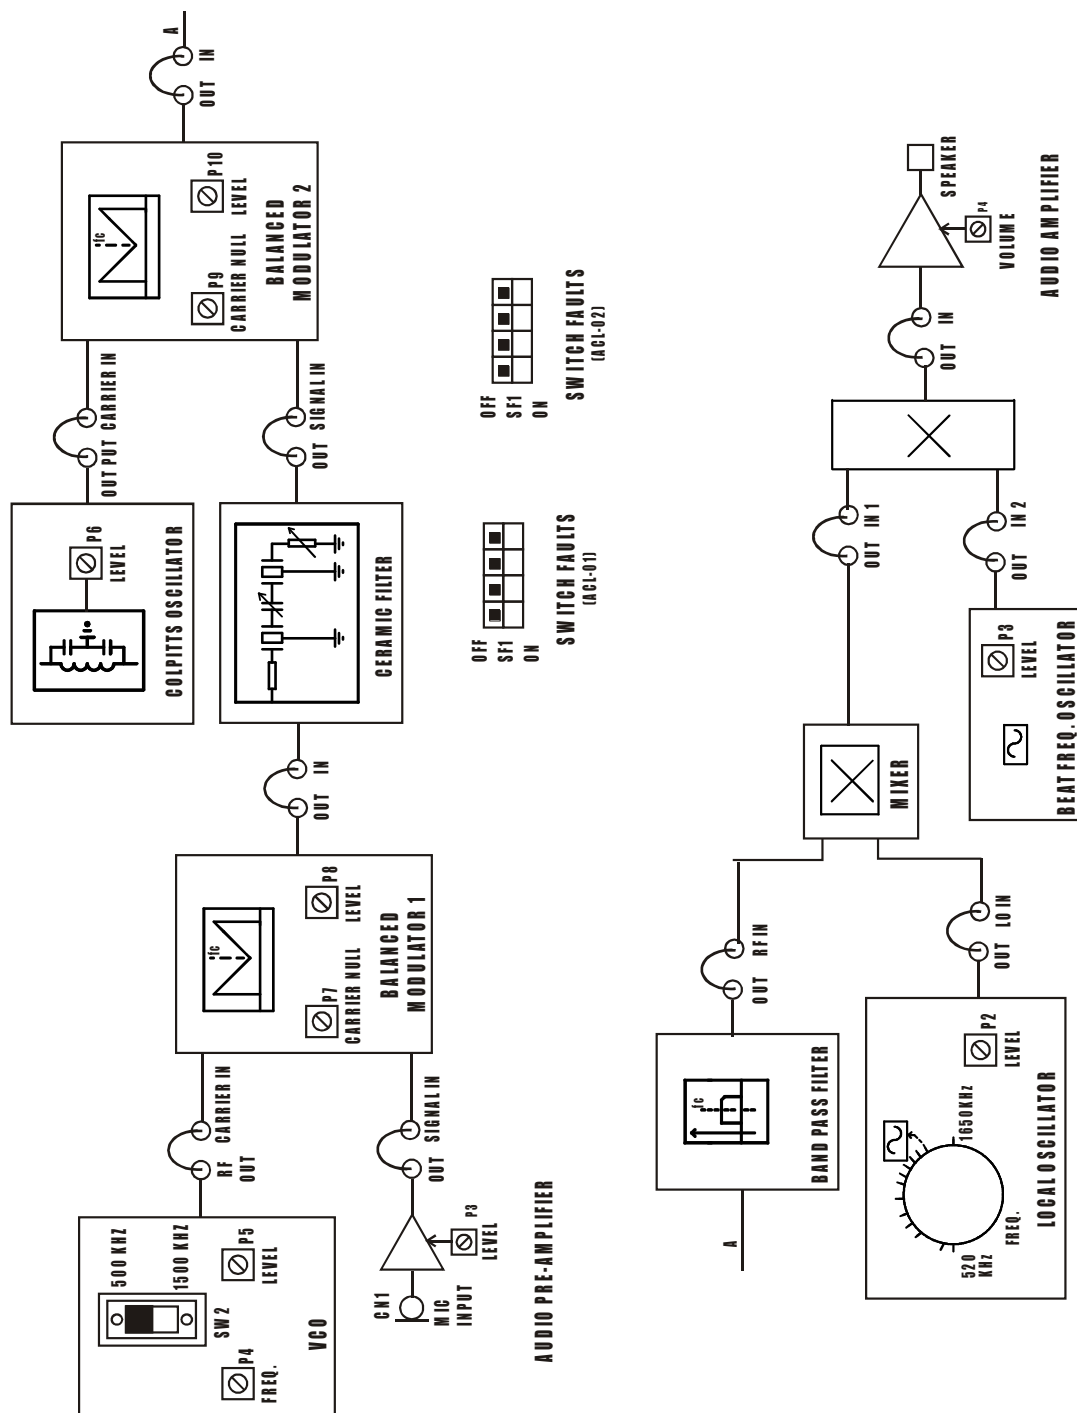

FIG. 9.3 BLOCK DIAGRAM FOR VOICE COMMUNICATION WITH SSB VIA CABLE
1. Set the connections for SSB Reception as shown in FIG. 9.3.